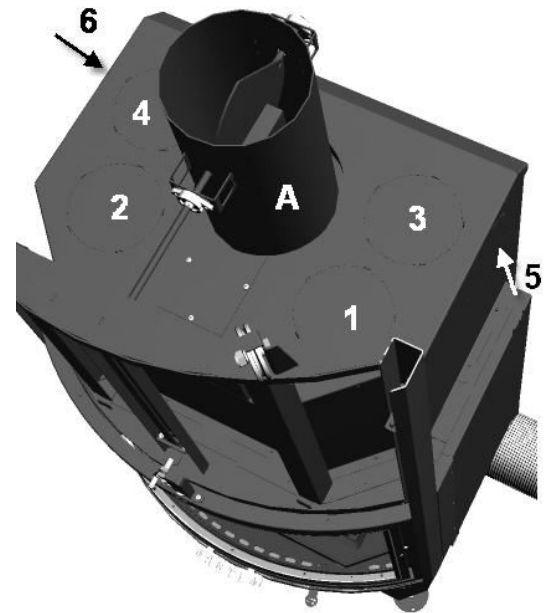

Fig. 14
There are six closed nozzles for conduits and a smoke outlet on the hood (Fig. 14). The one on the centre of the unit is the outlet for the smoke (A) and the other six conduits (1 to 6) are the outputs for the heating air. It is necessary to open two, at minimum, or four, at maximum.